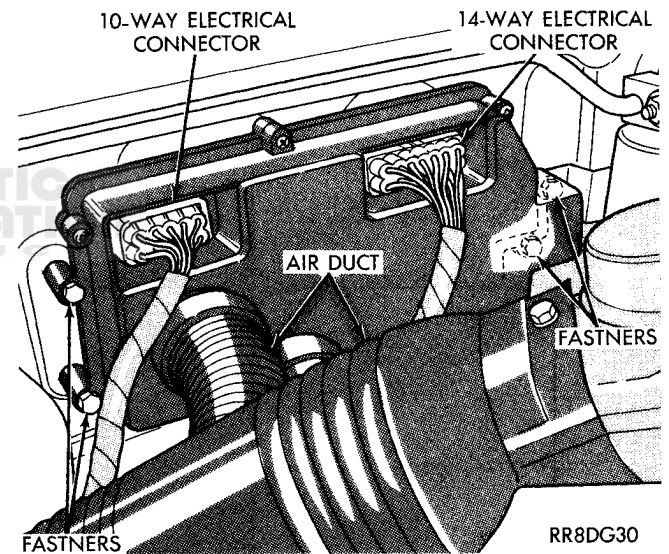

Fig. 1—Servicing Spark Control Computer
(1) Disconnect 10- and 14-way dual connectors and outside air duct from Spark Control Computer and remove vacuum line from vacuum transducer (Fig. 1).
(2) Remove four (4) mounting screws that hold spark control computer to inside right front fender (Fig. 1).
(2) Reconnect vacuum line to vacuum transducer, make sure vacuum line is not pinched and reconnect dual connectors and outside air duct to spark control computer (Fig. 1).
When it becomes necessary to replace the transducer, replace the Computer (Fig. 1).